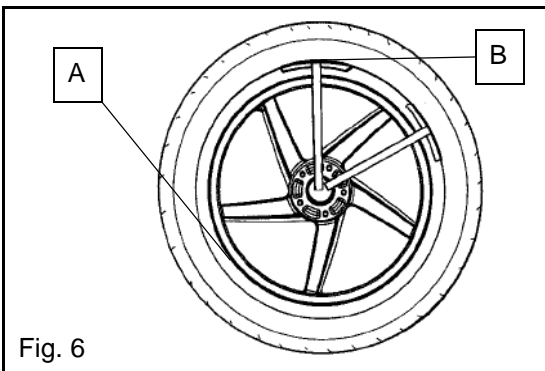

Fig. 6
8. Stand opposite of rim protectors. Use your knee to push tire bead down into the rim's drop center at location (Fig. 6, A) while pulling bottom bead up into drop center. Beads must be kept in drop center during following steps.
9. With both beads in the drop center, slide a tire iron between tire bead and 12 o'clock rim protector (Fig. 6, B), lift the bead up with the tire iron, and hold.